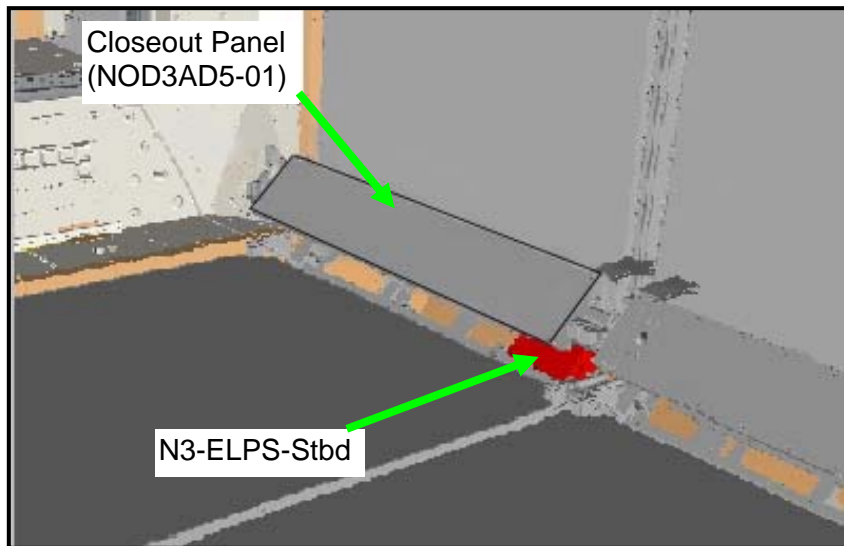

Figure 1.- N3-ELPS-Stbd Location (NOD3AD5).
- 2.1 Remove Closeout Panel NOD3AD5-01, fasteners (twenty-two) (Driver Handle; 5/32" Hex Head, 1/4" Drive). Temporarily stow Closeout Panel. Refer to Figure 1.